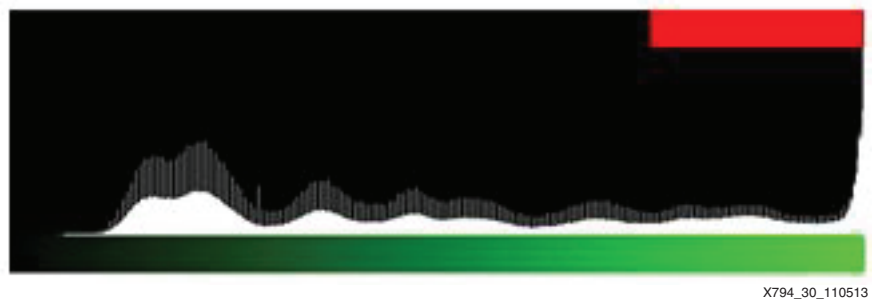

Figure 30: **Green Histogram**
- The green histogram (Figure 30) shows the distribution of green pixel values.